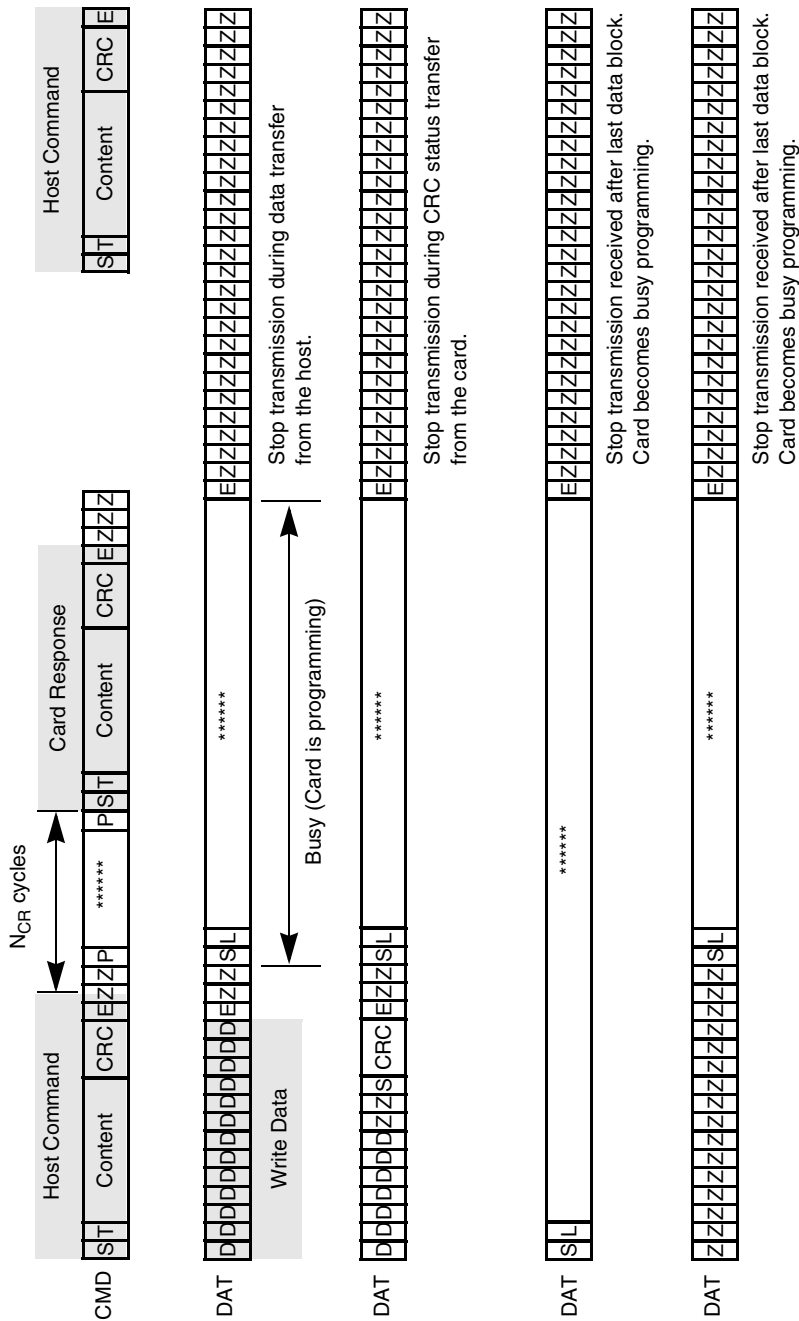

Figure 30. Stop Transmission During Different Scenarios
The card identification and card operation conditions timing are processed in open-drain mode. The card response to the host command starts after exactly  $N_{ID}$  clock cycles. For the card address assignment, SET\_RCA is also processed in the open-drain mode. The minimum delay between the host command and card response is  $N_{CR}$  clock cycles as illustrated in Figure 26. The symbols for Figure 26 through Figure 30 are defined in Table 26.
**Table 26. State Signal Parameters for Figure 26 through Figure 30**
The stop transmission command may occur when the card is in different states. Figure 30 shows the different scenarios on the bus.
Table 27. Timing Values for Figure 26 through Figure 30
**Table 27. Timing Values for Figure 26 through Figure 30 (Continued)**